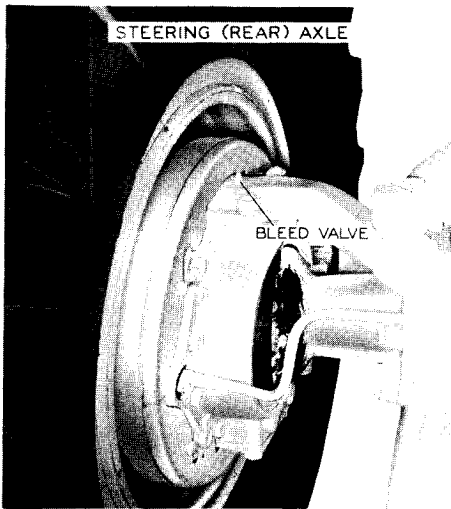

Figure 105
1. Loosen the bleeder valve on the wheel cylinder. Have someone depress the brake pedal while you observe flow of brake fluid from bleed valve. When air bubbles cease to appear, close the bleed valve, Figures 105 and 106.